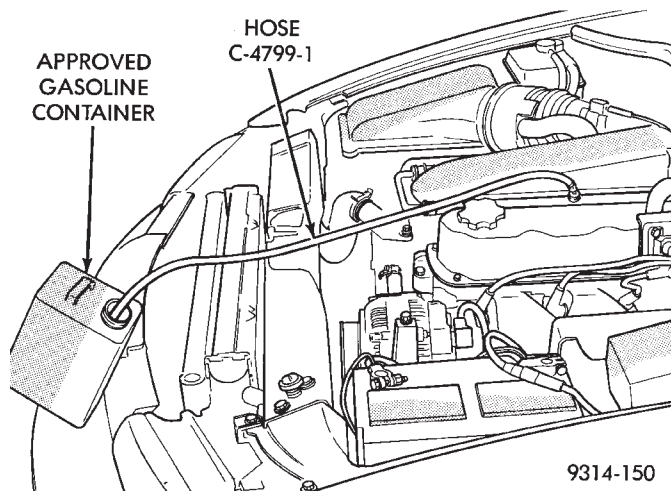

Fig. 14 Releasing Fuel Pressure—Typical
- (4) Place the open end of fuel pressure release hose, tool number C- 4799-1, into an approved gasoline container. Connect the other end of hose C-4799-1 to the fuel pressure test port (Fig. 14). Fuel pressure will bleed off through the hose into the gas-